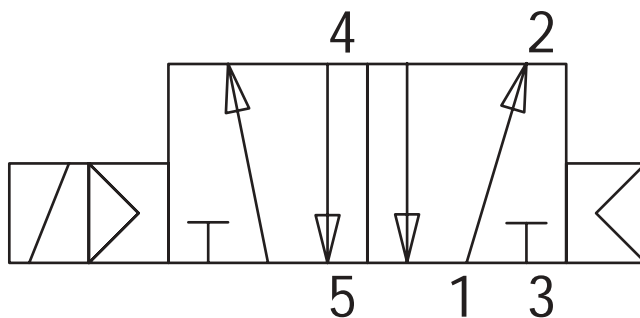
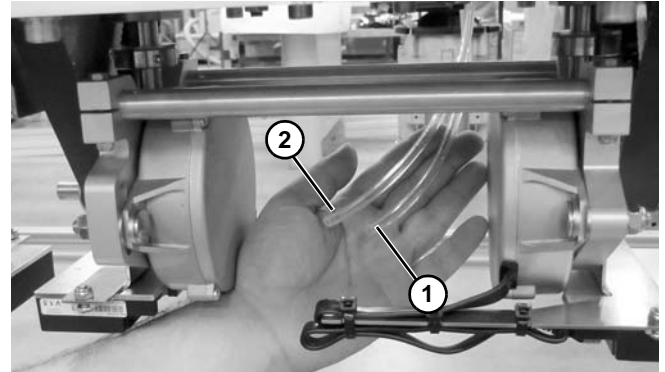

Figure 49
Figure 50
Dorner recommends using a 5 port, 2 way solenoid valve (Figure 49) to operate stop height.
1. Connect port 4 (Figure 49) of the 5 port, 2 way valve to the lower port (Figure 50, item 1) on the lift. Dorner fittings accept 1/4" outside diameter tubing standard.
2. Connect port 2 (Figure 49) of the 5 port, 2 way valve to the top port (Figure 50, item 2) on the lift. Dorner fittings accept 1/4" outside diameter tubing standard.